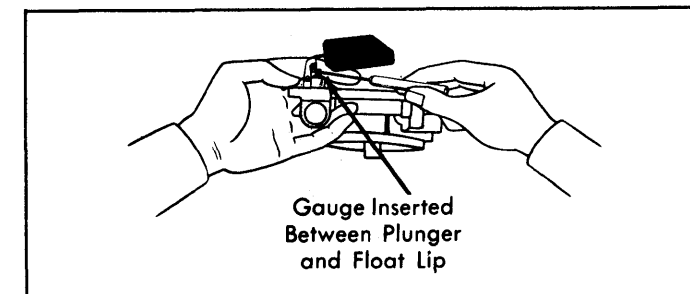

Fig. 4: Float Drop Adjustment
**1977-79 Models** - Lift up float and check clearance between needle valve plunger and float lip. See Fig. 4. Clearance should be .039" (1.0 mm). Bend lower float lip to make adjustment.